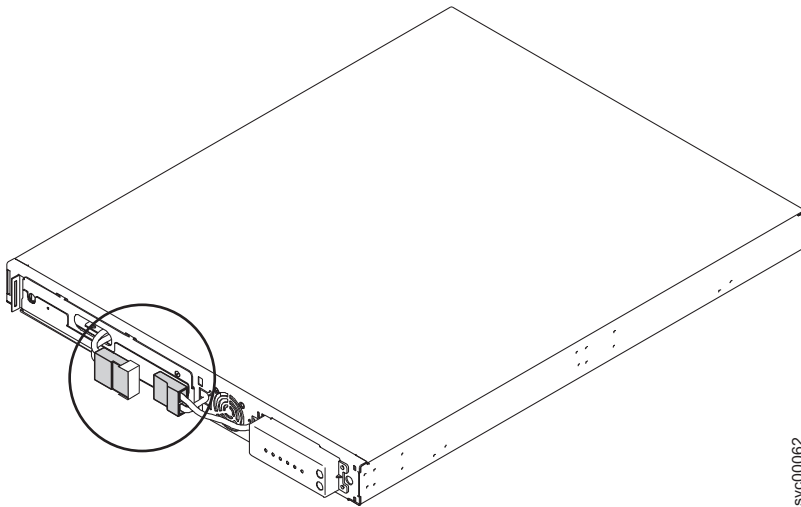

Figure 317. The 2145 UPS-1U internal battery connector with protective tape
6. Remove the protective tape from the internal battery connector (circled in Figure 317 on page 312).